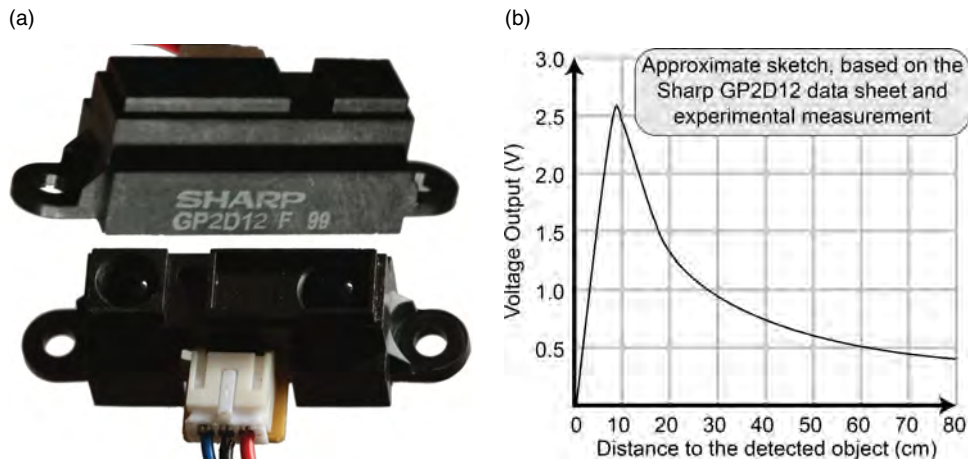

Figure 9-14: (a) Sharp infrared distance measurement sensor; (b) its analog output response
environments but have limited use in direct sunlight. They have a response time of ~ 39 ms, so at 25–26 readings per second they will not provide dense range images. Figure 9-14(a) shows two aspect views of a low-cost sensor, the Sharp GP2D12.
1. The sensor response in Figure 9-14(b) is highly nonlinear, so that two different distances can give the same sensor output. Thus you need to find a way to disambiguate the sensor output. For example, if the sensor output is 1.5V, it could mean that the detected object is either 5cm or 17cm from the sensor. A common solution to this problem is to mount the sensor so that it is physically impossible for an object to be closer than 10cm from the sensor. This problem is not examined in further detail, and it is assumed here that the detected object cannot be closer than 10cm from the sensor.